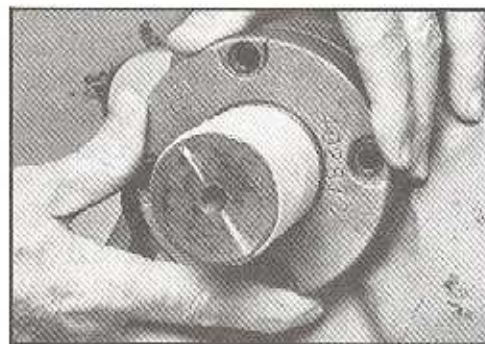

Figure 13
- 1.9 Apply clean high temperature grease per Ross specification 045231, Mobil Temp. 1 or 2, or equivalent to sector shaft seal area and install the trunnion cover (52) and four trunnion Screws (52A). Torque screws to 13-23 ft. lbs. (18-31 N m) if dry or 11-16 ft. lbs. (15-22 N m) if lubricated. SEE FIGURES 13, 14. Remove tape from sector shaft.